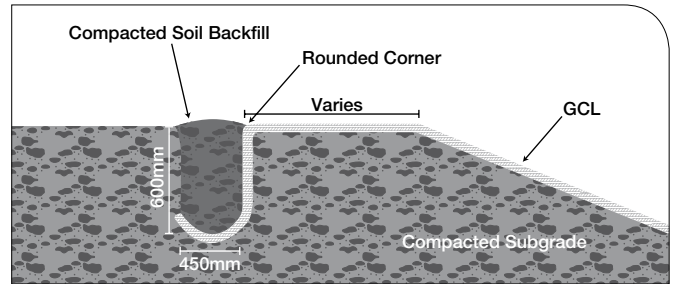

FIGURE 9 Typical Anchor Trench Design
6.2 If a trench is used for anchoring the end of the GCL, soil backfill should be placed in the trench to provide resistance against pullout. The size and shape of the trench, as well as the appropriate backfill procedures, should be in accordance with the project drawings and specifications. Typical dimensions are shown in Figure 9.